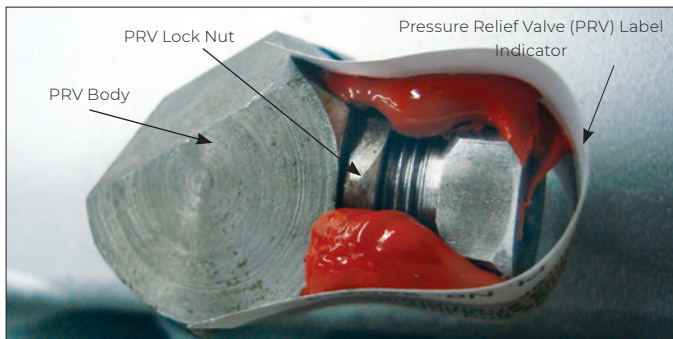

Figure 1
- ☐ Pressure relief device for signs of leakage. See Figure 1, page 5 and refer to A.3 Annual, page 4 (below) for further instructions.